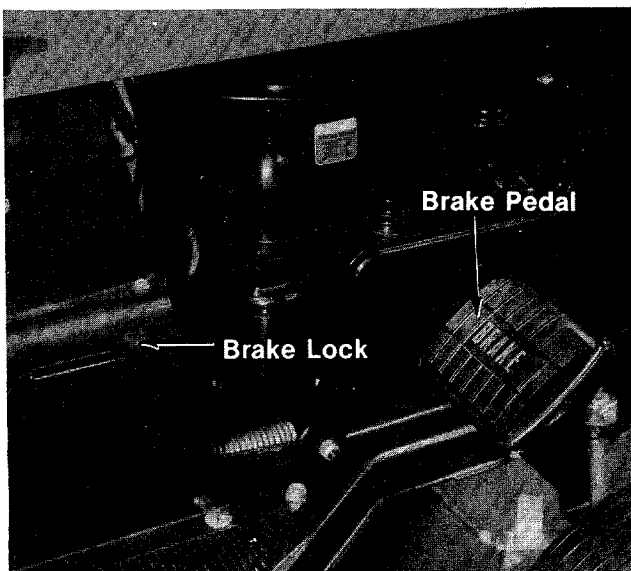

FIGURE 5.
The brake pedal is located on the right side of the mower and is operated by depressing it with your right foot. When coming to a complete stop it is necessary to depress both the clutch and the brake pedals. See figure 5.
The brake lock is located on the right side of the mower. To lock the brake, depress the brake pedal and lift up the lock button. The pedal will stay depressed. To release, depress the pedal. See figure 5.
3. Depress the brake pedal and lock it down with the brake lock. See figure 5.